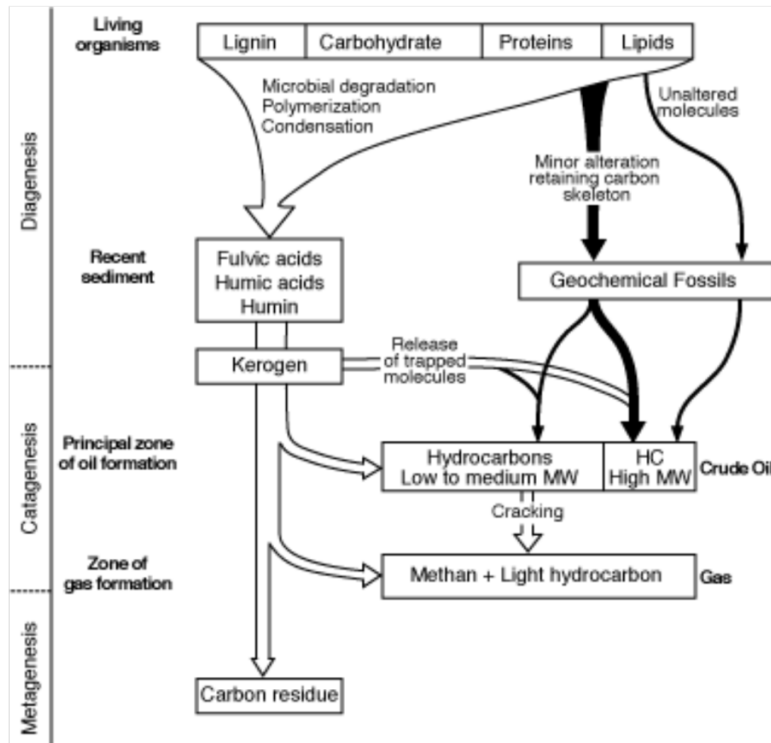

Figure 2. Hydrocarbon Formation Pathways in Geological Situations (Rullkotter, 1993).
- principal zone of oil formation, refers to a temperature range of 50°C~150°C. Liquid and gaseous hydrocarbons together with organic compounds with heteroatoms (oxygen, sulfur, and nitrogen) are released from the kerogen (Figure 2), so the catagenesis stage is called the "oil window."